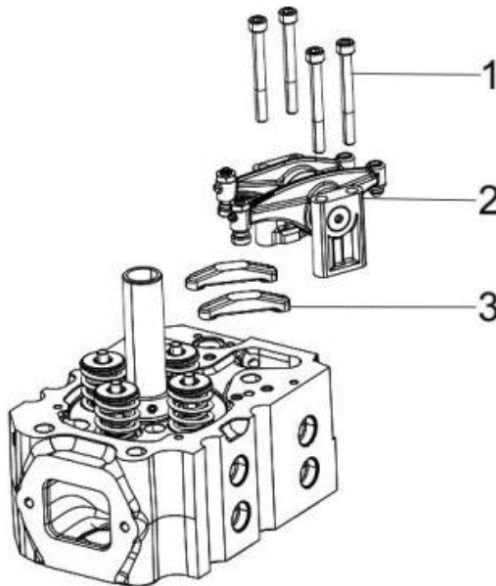

Figure 48. Rocker Arms
1. Remove the bolts (Figure 48, 1) that retain the rocker arm shaft supports.
2. Remove the rocker arm shaft assembly (Figure 48, 2) from the cylinder head.
3. Remove the valve bridge (Figure 48, 3).